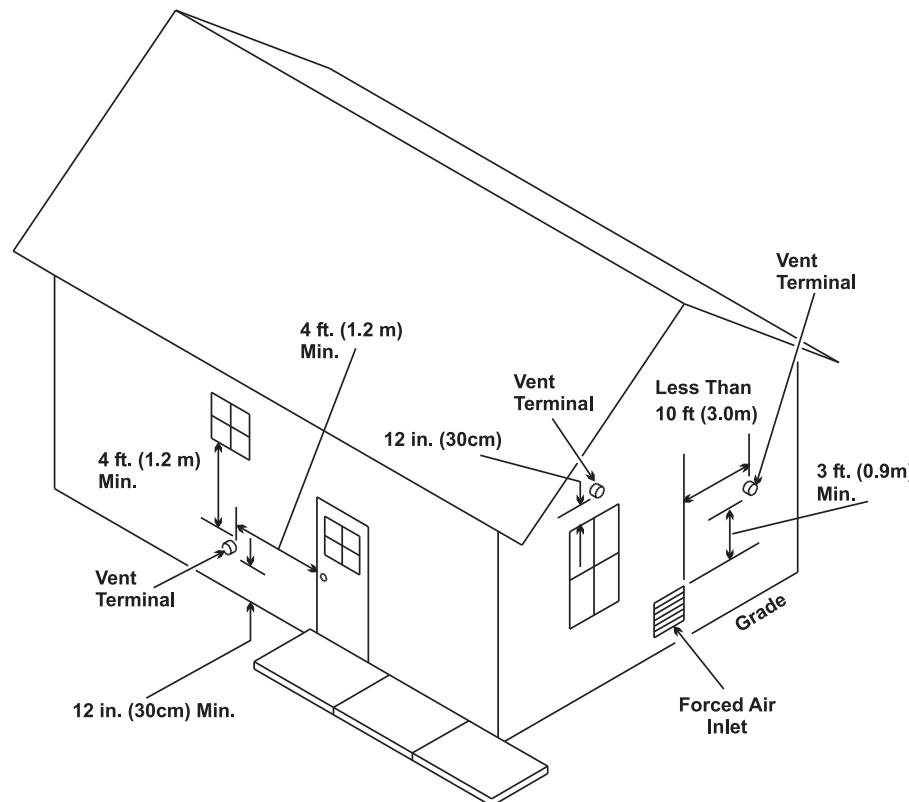

Figure 8. Side Wall Vent Terminals
**Outside Air Supply:** When combustion air is supplied directly through an outside wall, each opening should have a minimum free area of one square inch per 4,000 BTU/h (1.2kW) input of the total input rating of all appliances in the enclosed area. If air is provided through horizontal ducts, each opening and duct must provide one square inch of flow area for each 2000 BTU/h (0.6 kW). These requirements are summarized in Table 3. Note that the areas specified are net free areas and should be increased when the openings are covered by screens, louvers, grills or other protective covers. See Figure 8 and Table 3 notes.
Side wall vents must be installed and located in accordance with the National Fuel Gas Code NFPA 54 / ANSI Z223.1 or the Canadian Natural Gas and Propane Installation Code CAN/CSA-B149.1. See Figure 8 Side Wall Vent Terminations.